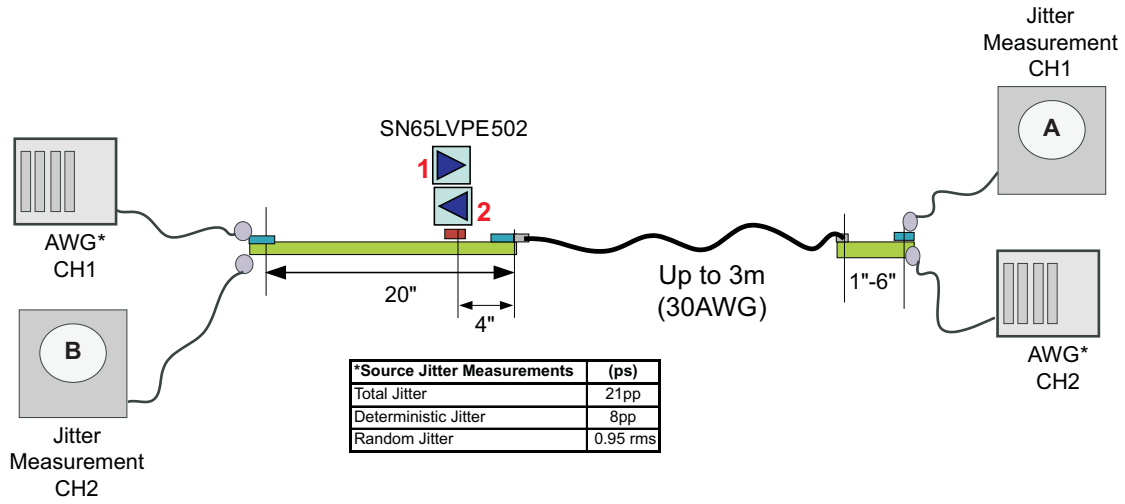

Figure 8. Jitter Measurement Setup
(1) Includes Rj at 10-12
(2) Measured at the end of reference channel in Figure 8 with K28.5 pattern, VID=1000mVpp, 5Gbps, -3.5dB DE from source.
(3) UI = 200ps
(4) Rj calculated as 14.069 times the RMS random jitter for 10-12 BER